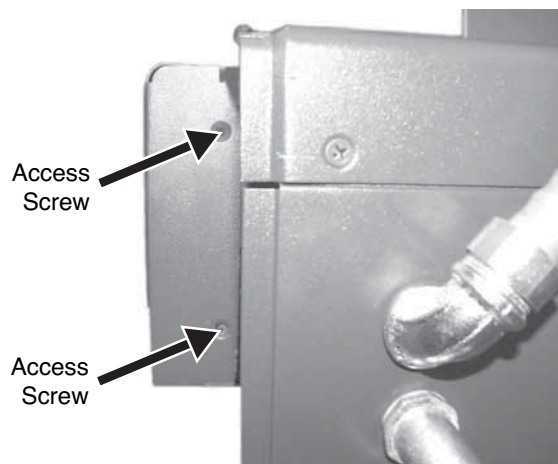

Fig 15
17. Remove the (4) Phillips screws that hold the control panel to the heater and lower the control panel. See Fig. 15.
22. Reinstall the (4) Phillips screws that hold the control panel to the heater. See Fig. 15.